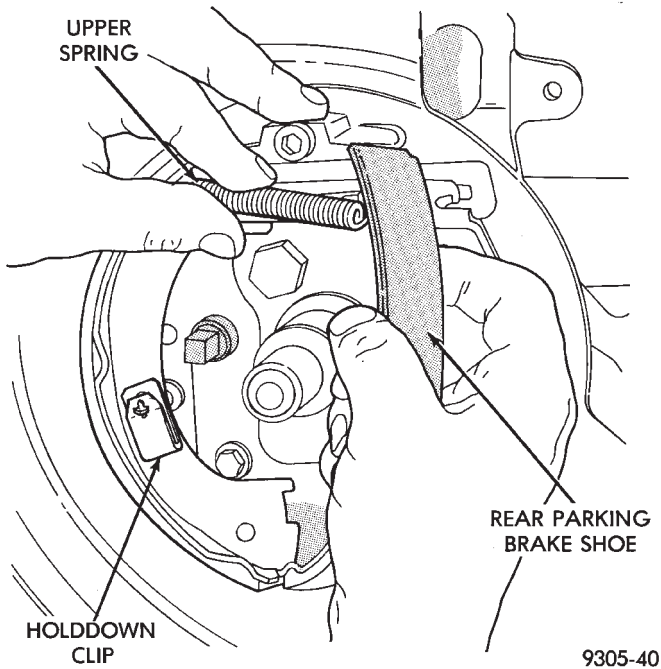

Fig. 4 Removing Shoe and Upper Spring
(6) Remove front braking disk (rotor) from hub, by pulling it straight off wheel mounting studs (Fig. 4).